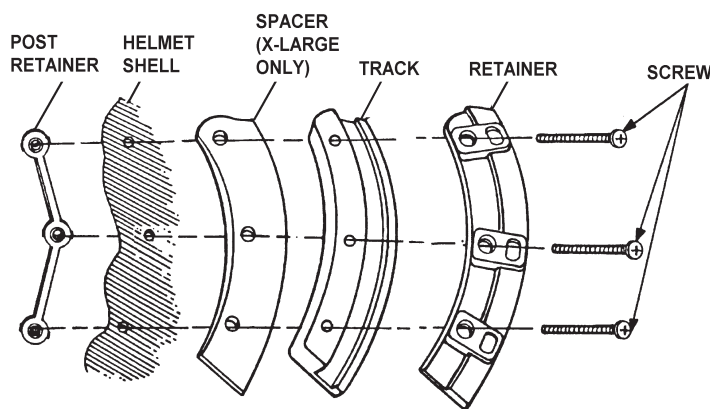

Figure 3-15. Visor Track, Retainer, Screw, and Post
3. Referring to Figure 3-15, attach the left-hand and right-hand visor tracks and retainers to the left and right sides of the helmet shell assembly.